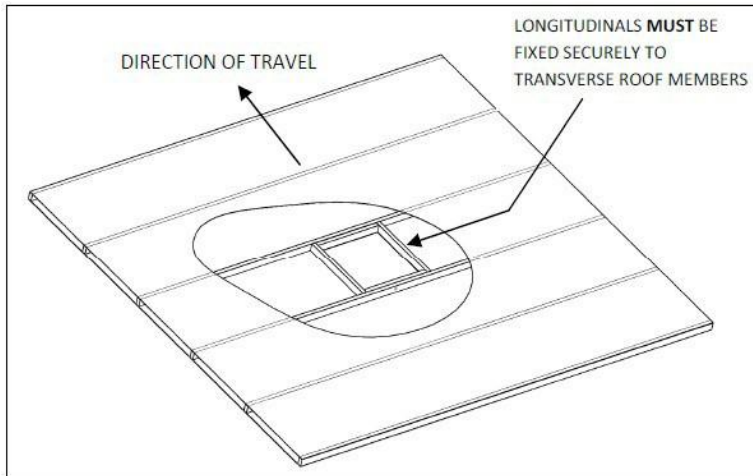

Fig 3: Shows an ideal roof structure with strong longitudinals and a 14' hole boxed
- The square hole in the roof (14" x 14") **MUST** be boxed up with minimum 3/4 inch square timber to provide a structure strong enough to withstand the compression of the installation bolts. This is also to ensure that air is not drawn from the roof cavity (Fig 3 & 4). Remember to leave access for wiring.
- Longitudinals **MUST** be fixed securely to the transverse roof members to transfer load (see Fig 3).
4. Press the cable sheath into the integral strain relief slot as shown in Figure 2. Wires must not extend beyond the stops as shown in Figure 3!
5. While holding the strain relief cover, position the housing's hinge posts into the hinge slots and press down until both lock into place as shown in **Figure 3**.